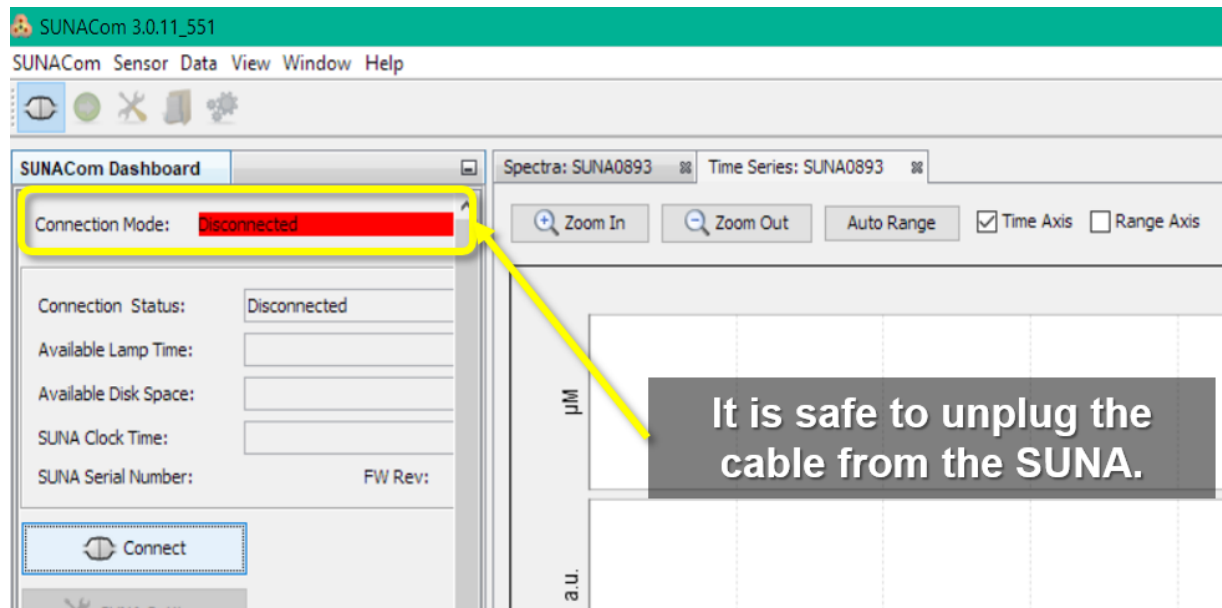

Figure 117. Safe to Unplug Cable from SUNA
18. When the SUNAcom software displays the Connection Mode as red, you can safely unplug the cable from the SUNA instrument (see Figure 117).